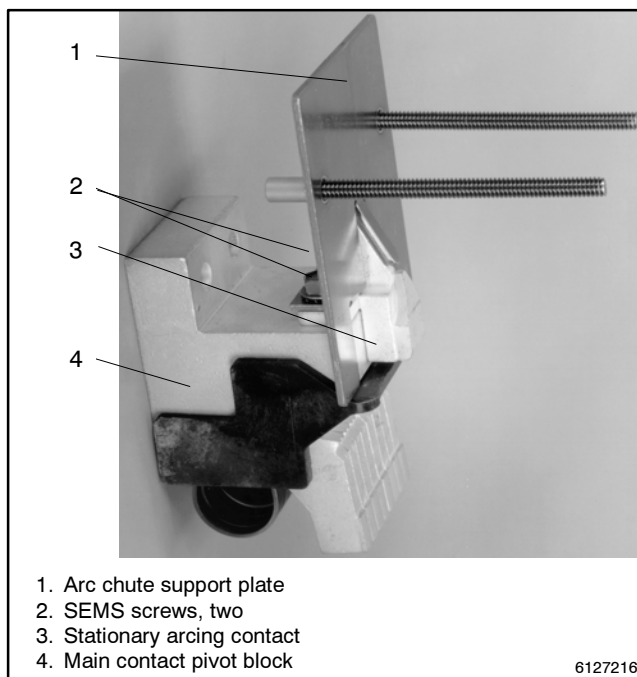

Figure 11-11 Stationary Arcing Contact
3. Install a new stationary arcing contact. Install a new stationary arcing contact and the arc chute support plate onto the main contact pivot block. Use a 3/8 in. socket wrench to secure it with two SEMS screws. Tighten both screws to 7.5 Nm (5.5 ft. lb.) torque. See Figure 11-11.